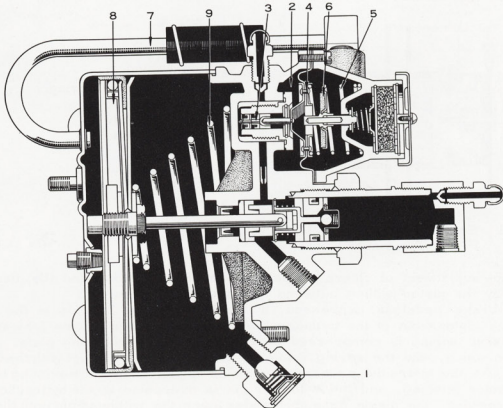

Fig. 13-3 Brake Booster Cross Section View
This allows the vacuum to pass into the rear end of the power cylinder through the pipe (7). With the vacuum acting on each side of the power piston (8), the pressure on each side is equal, and the power piston is suspended in the vacuum as illustrated in figure 13-3. The piston return spring (9) holds the power piston at the brake released position.